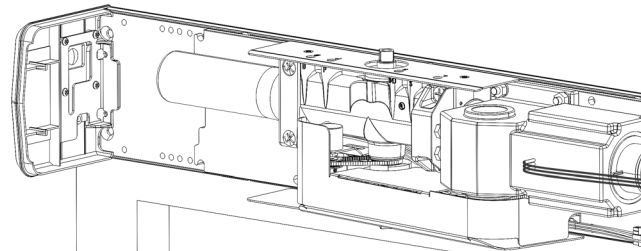

Figure 20
1. Using previously prepared holes in door, install two (2) 1/4-20 x 1-5/8" screws through shoe and into sex bolts. (Figure 20)